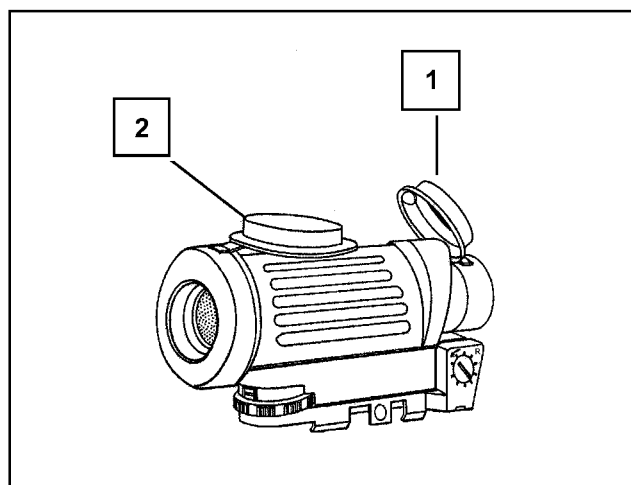

Figure G-43. Stowing the lens covers.
(1) Open the front (1) and the rear (2) lens covers.
(2) Turn each cover inside out to stow the lens covers while the sight is being used (Figure G-43).